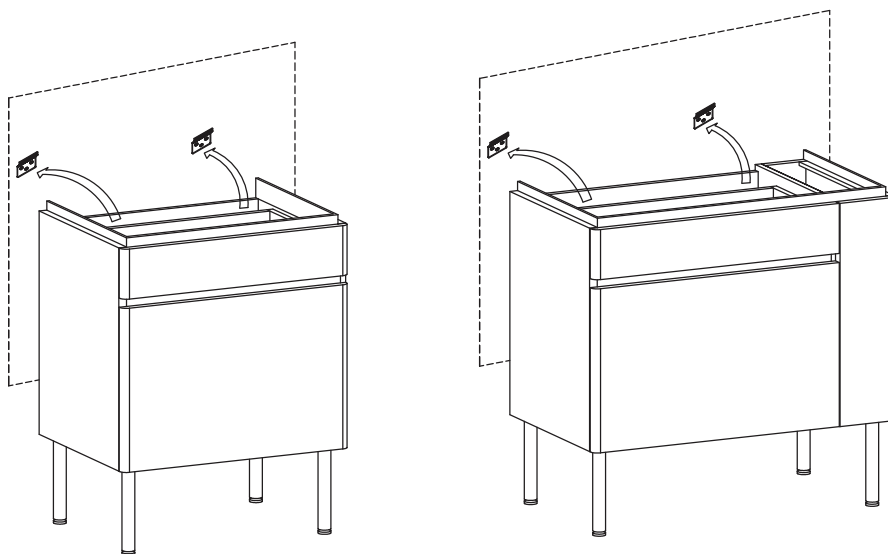

Fig.4
4. Hang the washbasin cabinet on the wall, and position the suspension on the hanged bracket. See Fig.4.